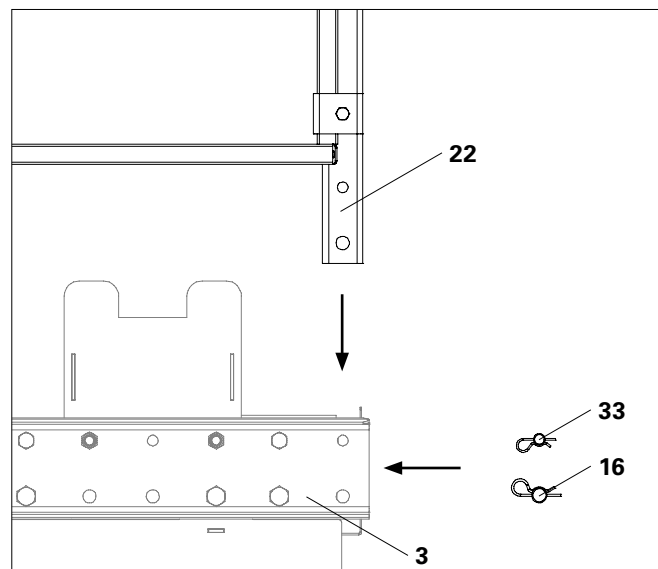

Fig. B3.09a
1. Attach the pre-assembled Side Mesh Barrier on the Scaffold Tube Steel  $\varnothing$  48.3 x 3.2, l = 4.0 m (30) to the crane.
2. Insert Guardrail Post RCS-MP (22) into the Climbing Rail RCS 748 (3).
3. Bolt on the Guardrail Post RCS-MP (22) using 1x Fitting Pin 21 x 120 (33) and 1x Fitting Pin 26 x 120 (16) and secure with Cotter Pin 4/1 (34) and Cotter Pin 5/1 (17) respectively. (Fig. B3.09a)